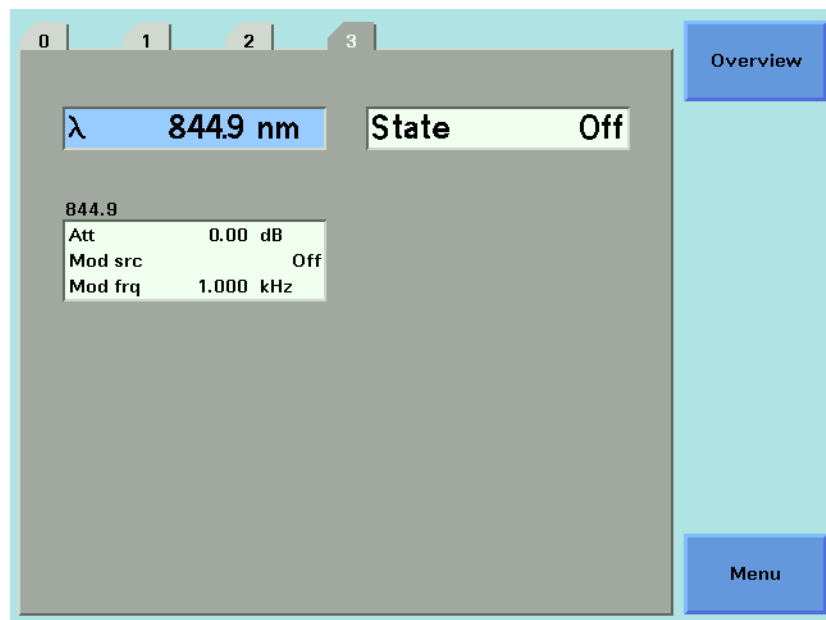

Figure 74 The Power Sensor Details Screen
- 1 Move to the laser source channel and press the [Details] softkey. You see the screen in Figure 74 on page -126.